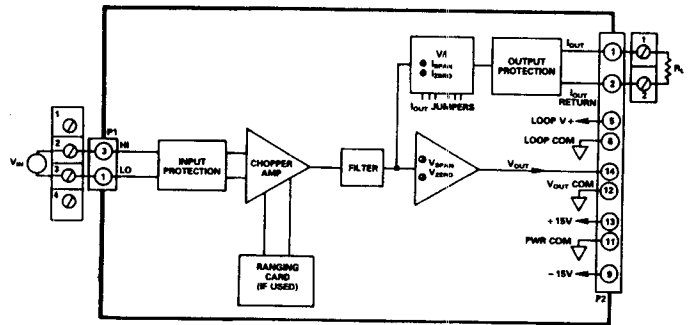

Figure 2.1.1.1 OM3-MV and OM3-V Functional Block Diagram
1. Connect model OM3-MV (OM3-V) as shown in Figure 2.1.1.1 with $R_L = 250\Omega$.